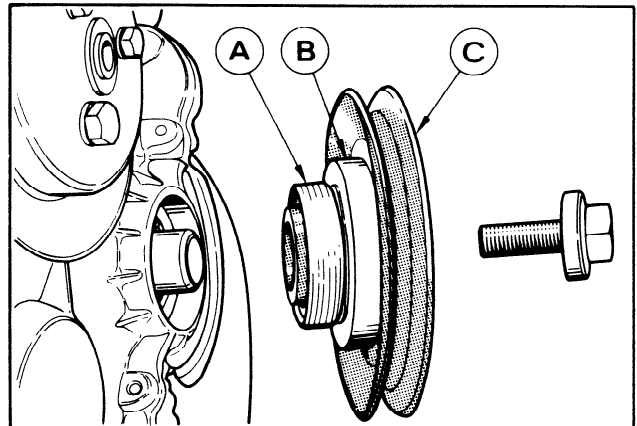

FIG. 37 Front Oil Seal Installation
1. Lubricate the sealing lip of the new seal with engine oil and push new seal into front cover using tool 21-046, crankshaft pulley, bolt and washer (Figure 37).